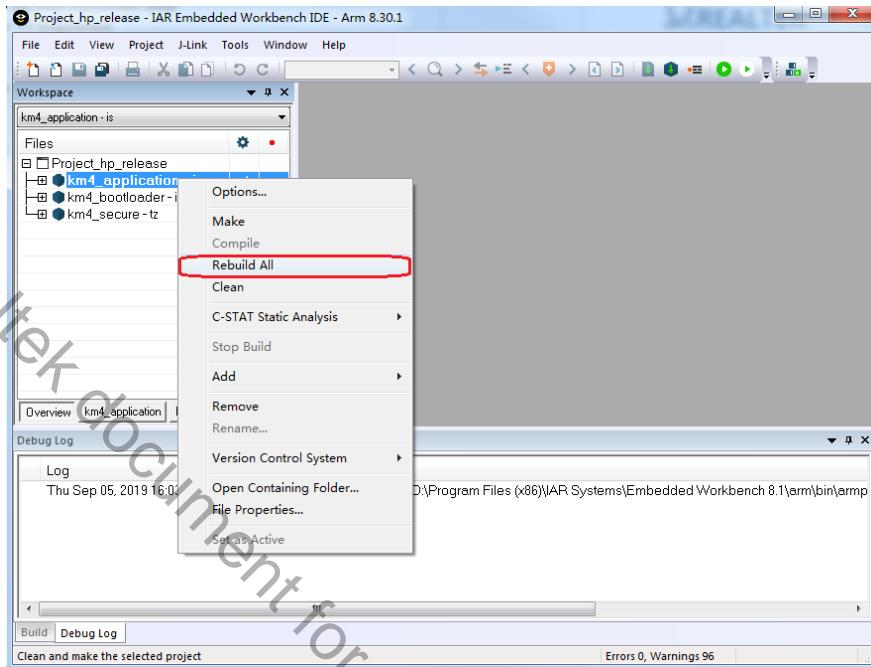

Fig 6-10 Building KM4 project
- (4) Right click the project and choose “Rebuild All”, as Fig 6-10 shows. The km4_bootloader, km4_secure and km4_application should compile in order.